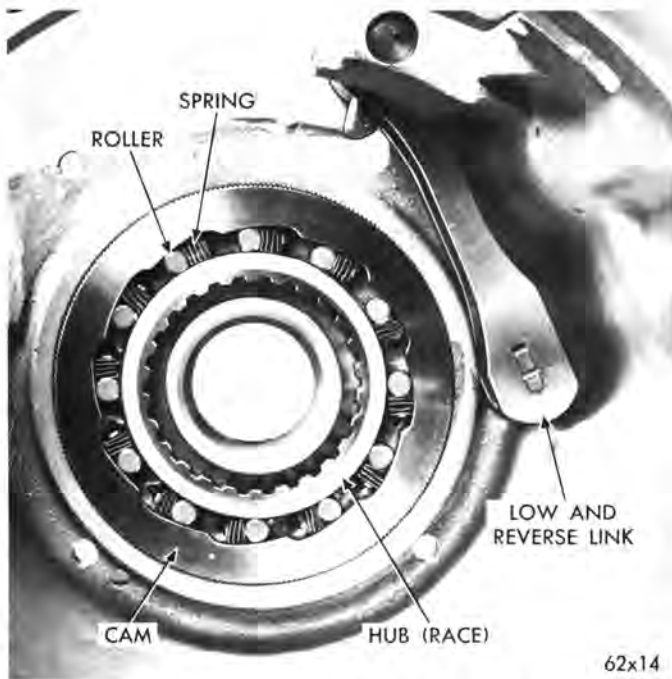

Fig. 112—Overrunning Clutch, Low and Reverse Band Link
(1) Insert the clutch hub (race) inside the overrunning clutch cam, then install the springs and rollers exactly as shown in Figure 112.
A-727-A and B: Be sure the long link and anchor assembly is installed, as shown in Figure 112 to provide the running clearance for the low and reverse drum.